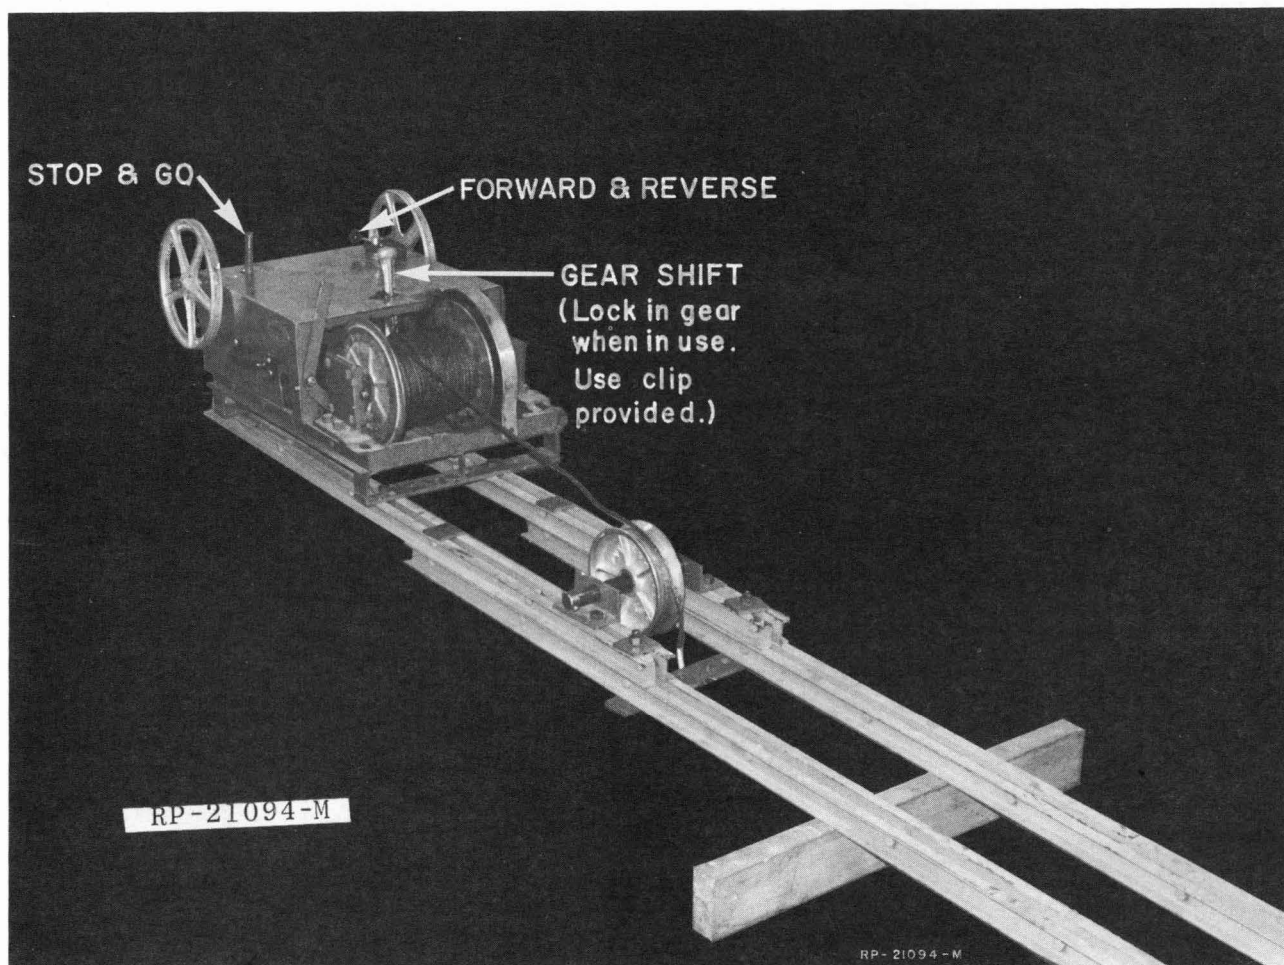

FIG. 6 R-3761 HOIST AND WINCH UNIT (Para. 3.3 & 3.4)
3.31 The R-3761 Hoist and Winch Unit shown in Figure 6, can be used for hoisting vertically hung sections of duct. It is capable of hoisting 2000 lbs. This unit which weighs 125 pounds, can be wheeled around very readily. The boom with the pulley is laid across the duct hole and the unit is ready for use. It is furnished with 200 feet of steel cable. See Paragraph 3.4 for operating precautions.